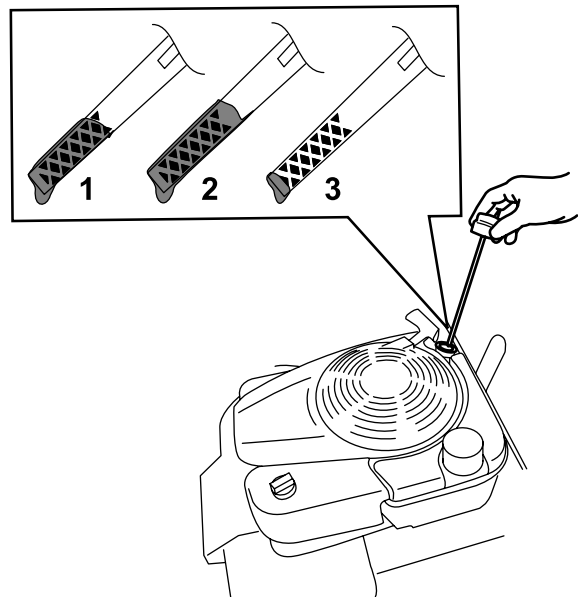

Figure 32
3. Remove the dipstick by rotating the cap counterclockwise and pulling it out (Figure 32).
10. Read the oil level on the dipstick (Figure 32).